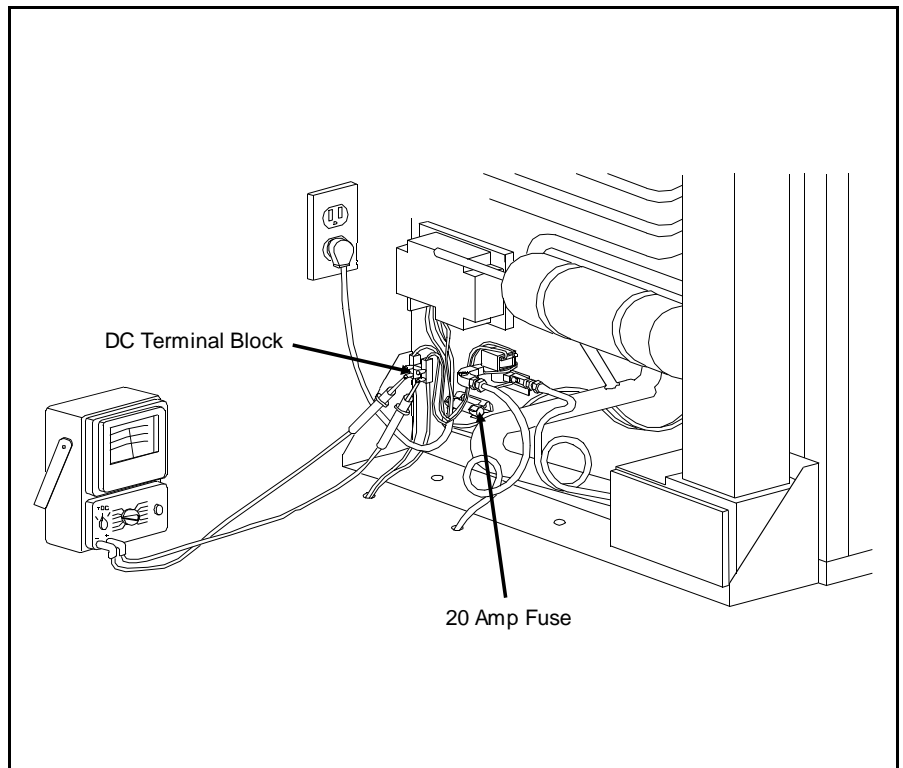

Figure 4.52 12 Volt DC Supply Check
3. Check for 12 volt DC at the DC terminal block as shown in Figure 4.52. If no voltage read, inspect/repair 12 Volt source.
- A. If 12 Volts not present, there is a bad connection between the terminal block shown in Figure 4.52 and the PC board.